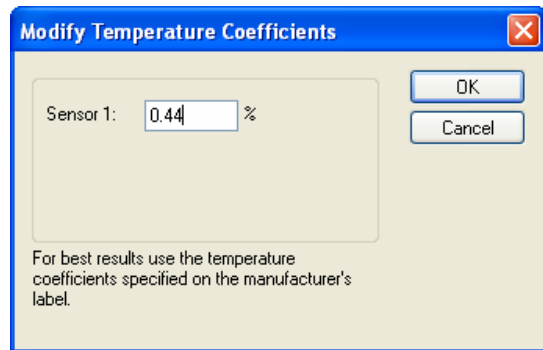

Figure 5: Modifying the probes temperature coefficient.
5. You are prompted to enter the probes temperature coefficient as shown in Figure 5. This coefficient is found on the probe's container. The probe, support and cable are connected to channel 0 on the Multichannel CTA frame. For probe 2 and steps 3 to 5 are repeated. Afterwards probe 1 is deleted from the system leaving only probe 2 connected to channel 1 on the Multichannel CTA frame.